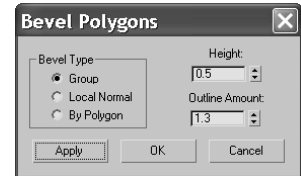

Figure 4.44
4. Convert the box to an Editable Poly by selecting the box and choosing Modifiers → Mesh Editing → Edit Poly. As seen in Figure 4.44, you can always go through the Modifier Stack to convert the box to the Editable Poly instead of using the menus.